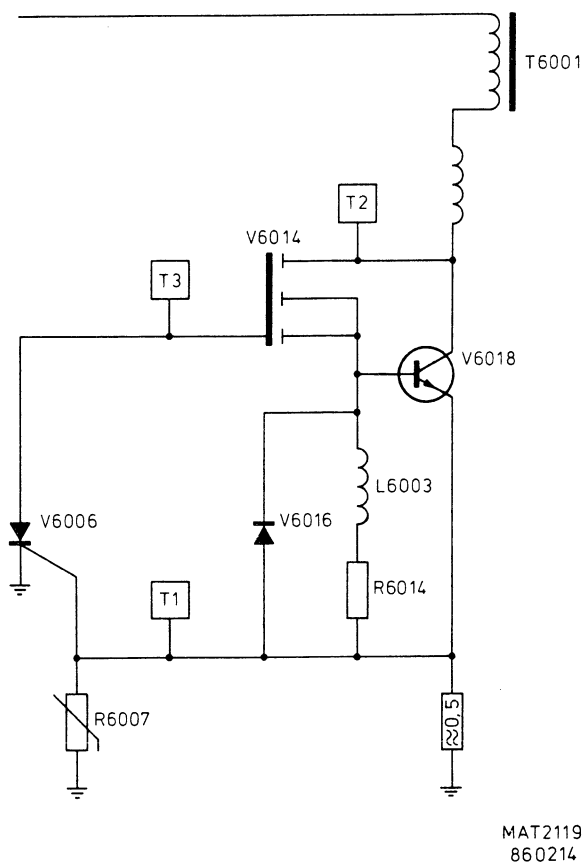
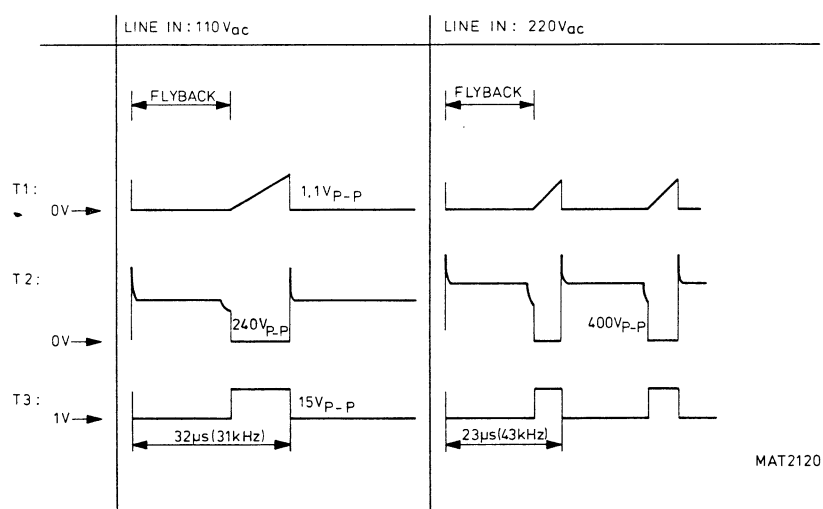

Figure 9.1 Converter circuit
Figure 9.2 Timing diagram converter circuit
9.2 CONVERTER CIRCUIT (see figure 9.1 and figure 9.2)